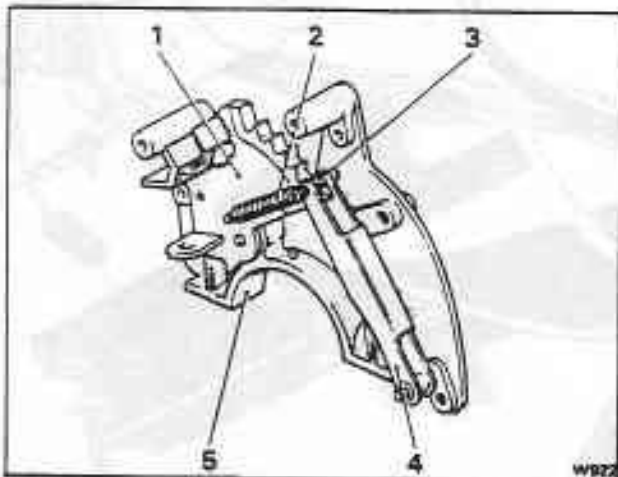

Fig. N3-4 Quadrant to rocking arm assembly
3. Fit the rocker arm assembly, ensuring that the roller lines up correctly with the detent in the quadrant (see fig. N3-4).
4. Fit the two small tension springs, one either side of the quadrant, to the spindle (see fig. N3-4). Assembly is easier if the quadrant is rotated anti-clockwise clear of the rocker arm so that the springs are not under tension.